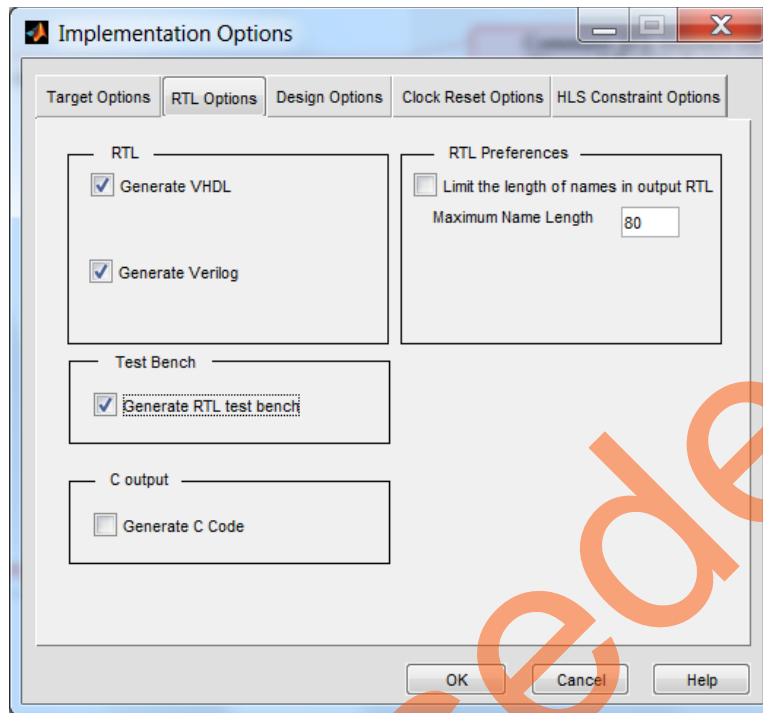

Figure 8. Implementation Options - RTL Options tab
10. On the **RTL Options** tab, select the **Generate VHDL**, **Generate Verilog**, and **Generate RTL testbench** check boxes, as shown in Figure 8.